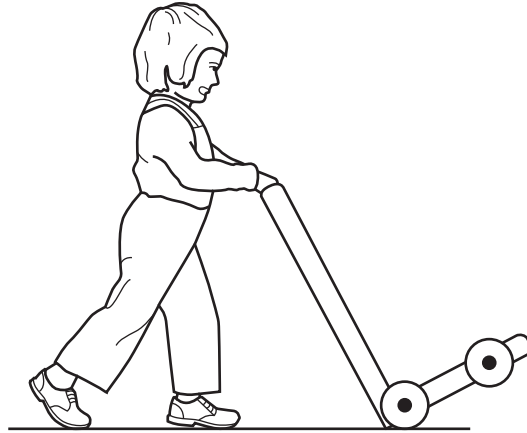

Fig. 3
- (b) When the toy is pushed by a child, there is a danger that the toy will tip backwards as shown in Fig. 3.